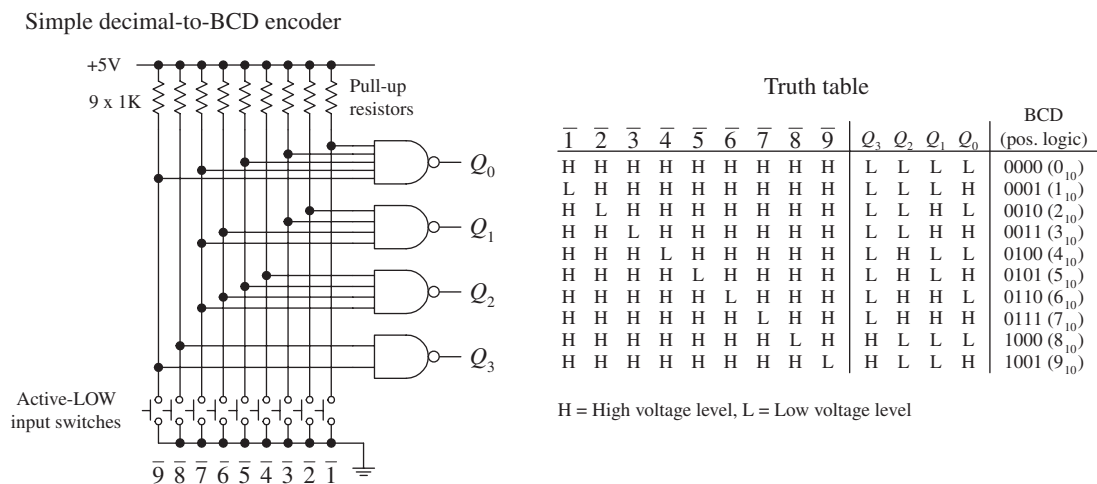
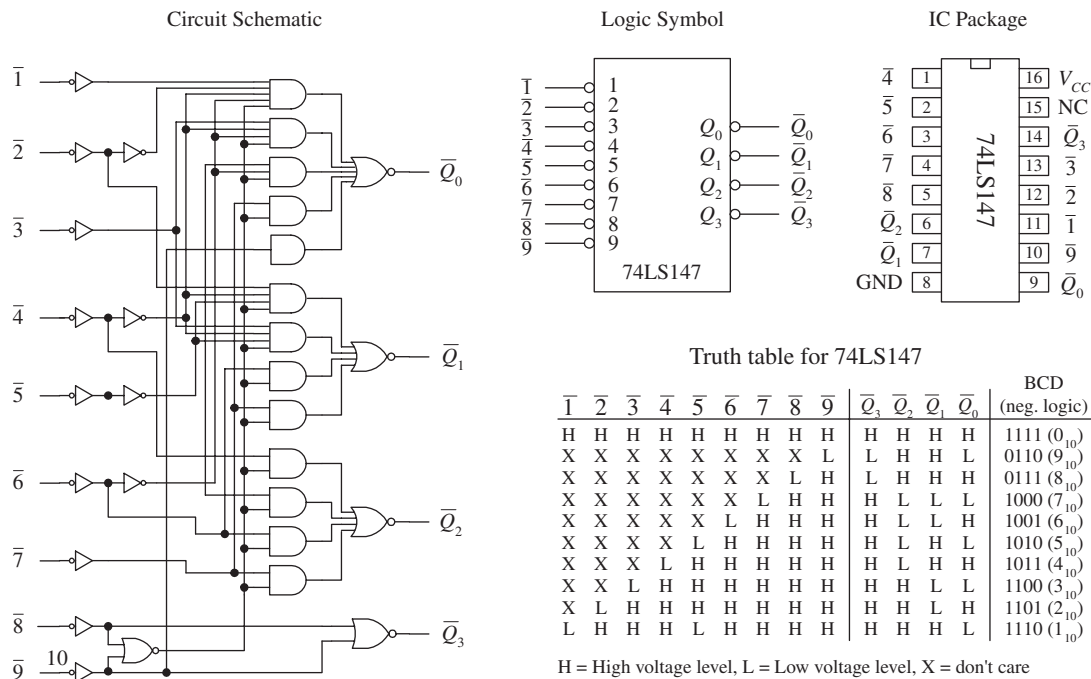

FIGURE 12.39
FIGURE 12.40
Encoders are the opposite of decoders. They are used to generate a coded output from a single active numeric input. To illustrate this in a simple manner, let's take a look at the simple decimal-to-BCD encoder circuit shown in Fig. 12.39.
In this circuit, normally all lines are held high by the pullup resistors connected to +5 V. To generate a BCD output that is equivalent to a single selected decimal input, the switch corresponding to that decimal is closed. (The switch acts as an active-low input.) The truth table in Fig. 12.39 explains the rest.
Figure 12.40 shows a 74LS147 decimal-to-BCD (ten-line-to-four-line) priority encoder IC. The 74LS147 provides the same basic function as the circuit shown in Fig. 12.39, but it has active-low outputs. This means that instead of getting an LLHH output when 3 is selected, as in the previous encoder, you get HHLL. The two outputs represent the same thing (3); one is expressed in positive true logic, and the other (the 74LS147) is expressed in negative true logic. If you do not like negative true logic, you can slap inverters on the outputs of the 74LS147 to get positive true logic.
Another important difference between the two encoders is the priority that is used with the 74LS147 and not used with the encoder in Fig. 12.39. The term *priority* is applied to the 74LS147 because this encoder is designed so that if two or more inputs are selected at the same time, it will select only the larger-order digit. For example, if 3, 5, and 8 are selected at the same time, only the 8 (negative true BCD LHHH or 0111) will be output. The truth table in Fig. 12.40 demonstrates this; look at the “don’t care” or “X” entries. With the nonpriority encoder, if two or more inputs are applied at the same time, the output will be unpredictable.